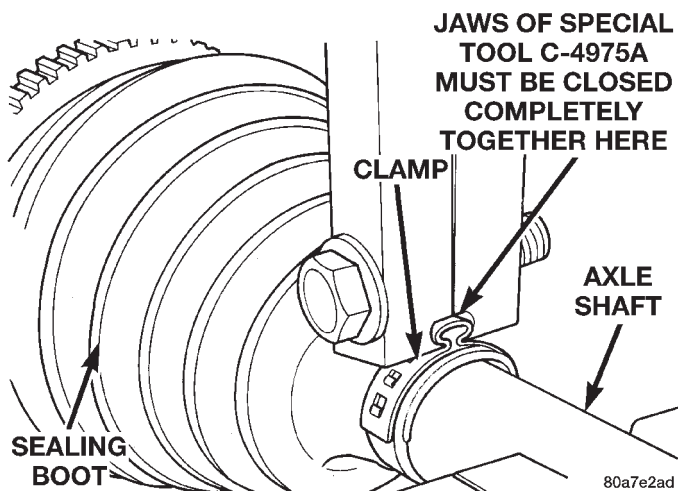

Fig. 8 Sealing Boot Retaining Clamp Installed
(7) Tighten nut on crimping tool C-4975-A until jaws on tool are closed completely together, face to face (Fig. 8).